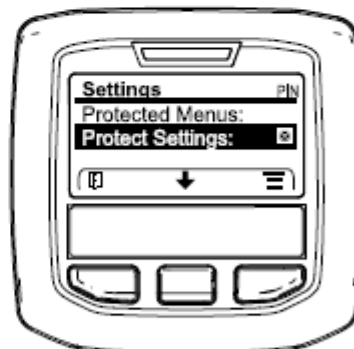

Figure 3
1. Access the protected menu and unlock the protected settings submenu (Figure 3); refer to (page).